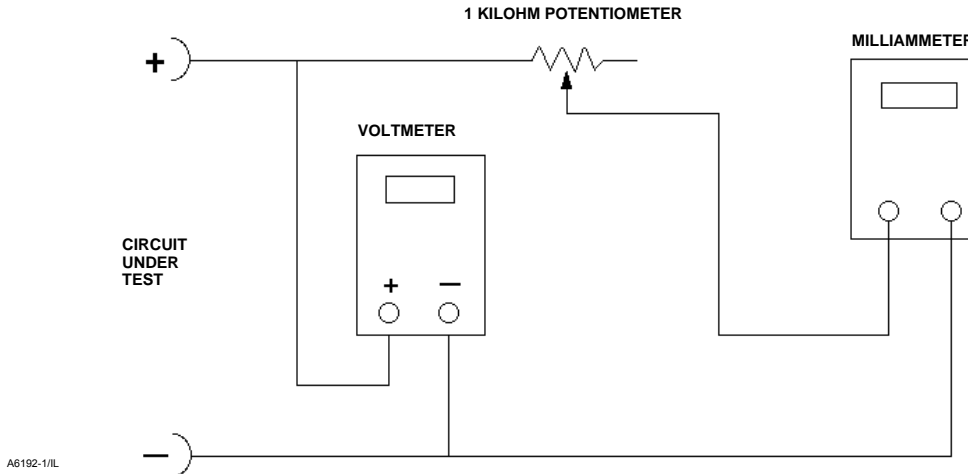

Figure 6-4. Voltage Test Schematic
1. Disconnect the field wiring from the control system and connect equipment as shown in figure 6-4 to the control system terminals.”
3. Set the resistance of the 1 kilOhm potentiometer shown in figure 6-4 to zero.